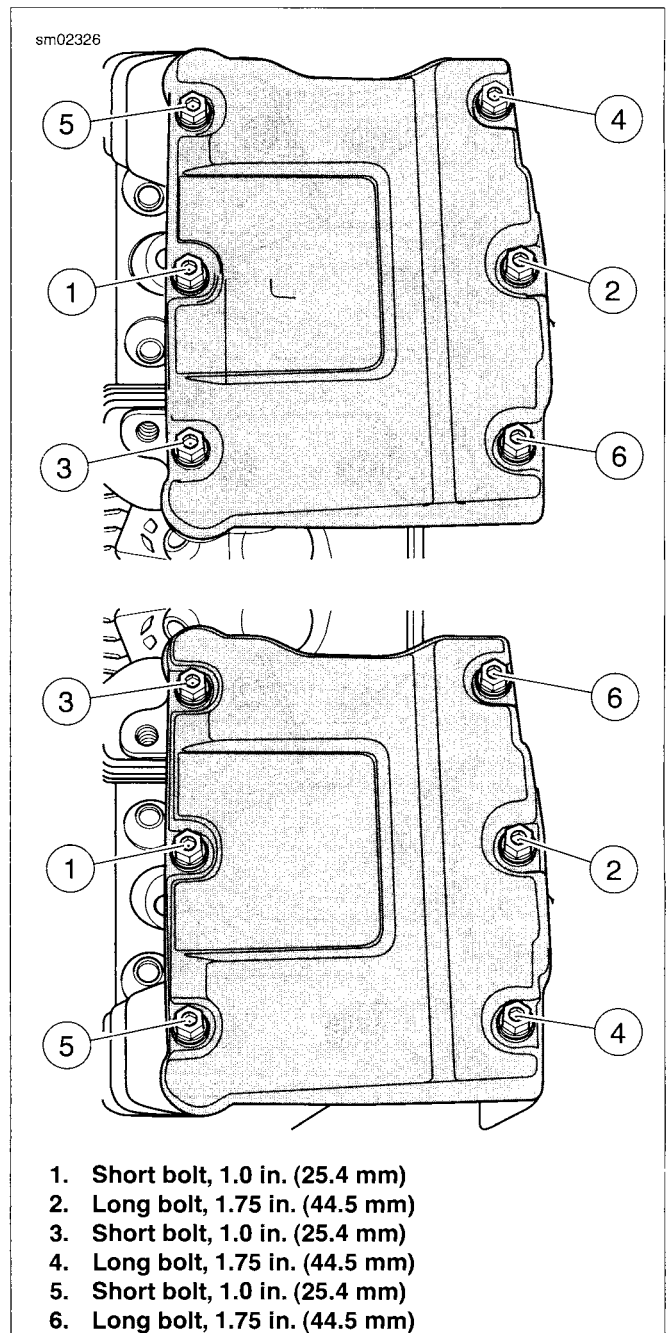

Figure 3-49. Rocker Cover Bolts Torque Sequence
1. See Figure 3-49. Alternately tighten the two bolts to secure breather assembly to 90-120 in-lbs (10.2-13.6 Nm).
3. See Figure 3-49. Install rocker cover bolts.